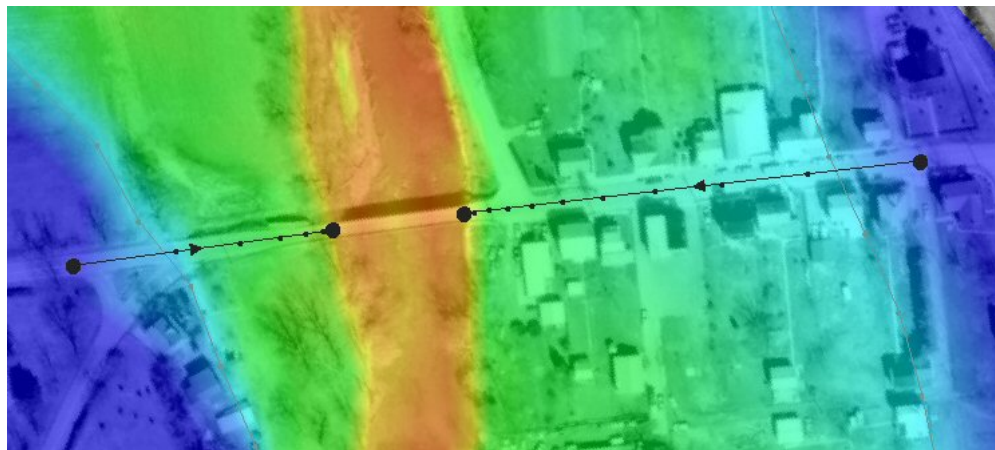

Figure 7-4 Abutment centelines for the proposed bridge over Double Pipe Creek
1. Using the *Create Feature Arc*  tool create arcs representing the centerlines of the two abutments as shown in Figure 7-4. You can use the roadway in the aerial photograph to help you position the centerline arcs and line them up with each other. Create the arcs starting outside the model domain in the floodplain and proceeding toward the Double Pipe Creek. End the arcs at the edge of the creek. The length of the bridge will be roughly the distance